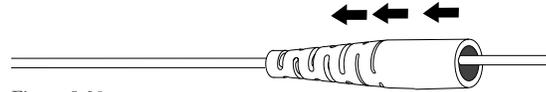

Figure 5-29
**5.6-7** Slide the 2.9 mm boot (small end first) down the cable until it is out of the way (Figure 5-29).